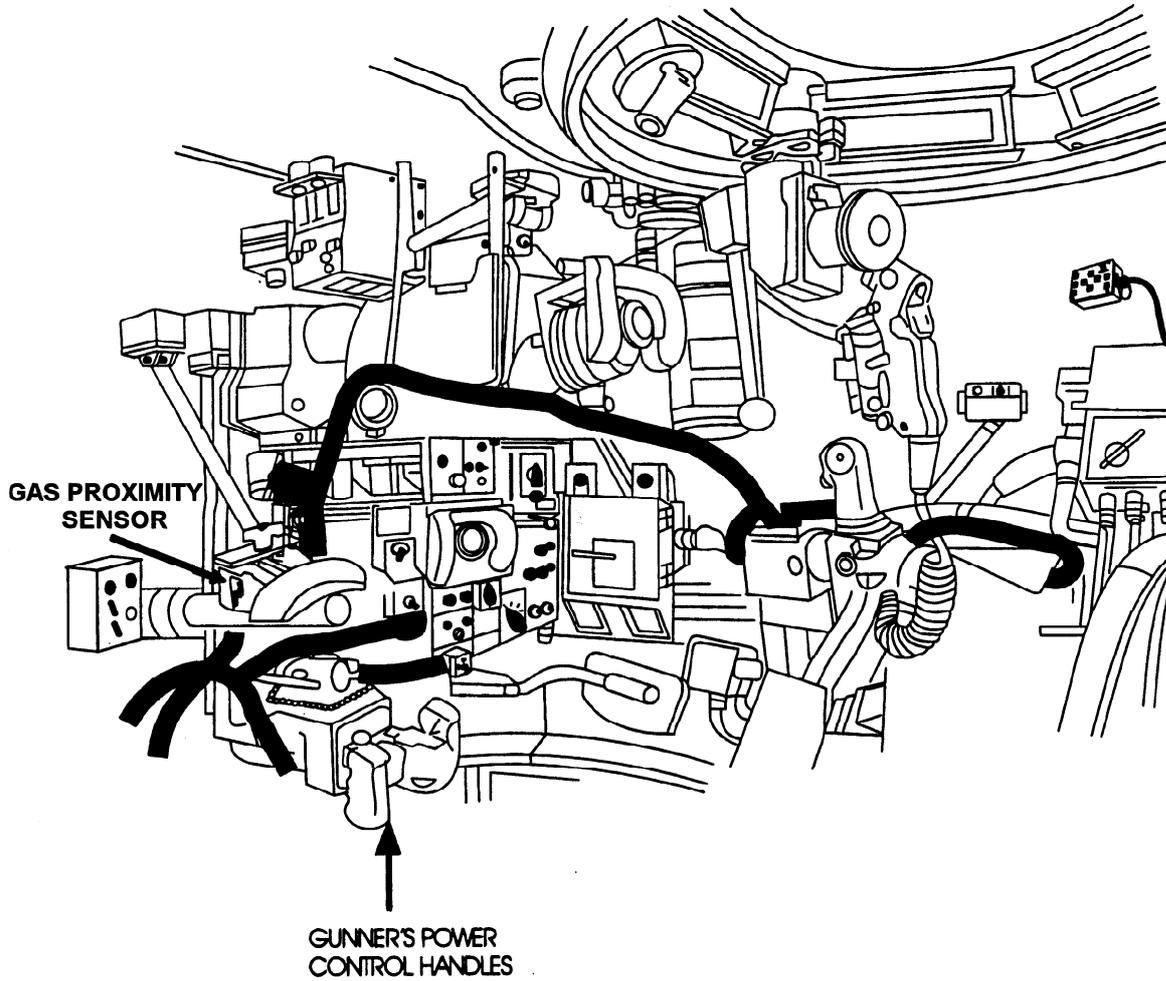

Figure 2-19. Gunner's Power Control Handles
2.3.2.4 Gunner's Power Control Handles. The Gunner's Power Control Handles, shown in **Figure 2-19**, provide the Gunner the same control of the turret and the fire control
2.3.2.5 GAS Proximity Sensor. The GAS Proximity Sensor, shown in Figure 2-19 allows the simulator to detect when the Gunner is using the GAS. The simulator provides a GAS view that is appropriate to the exercise on both the GAS and TC monitors.